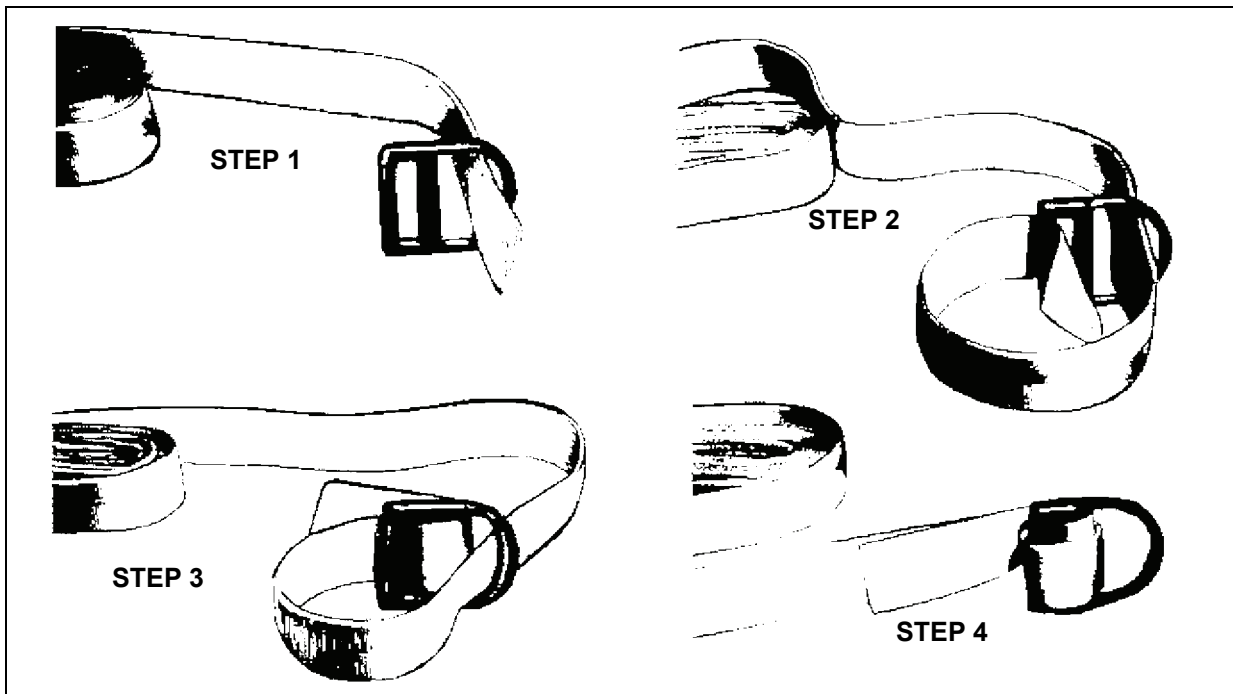

Figure 8-36. Tiedown Strap Routed Through the D-ring
- **15-Foot Tiedown Strap.** The 15-foot tiedown strap is made of 1 3/4-inch wide Type V low-elongation polyester textile webbing with a D-ring at one end. The cargo tiedown straps are used with heavy duty D-rings and load binders to secure bulk or palletized cargo making up a single load or for lashing cargo to a vehicle. The procedure for using the heavy duty D-ring (Figure 8-36) is outlined in the following steps: